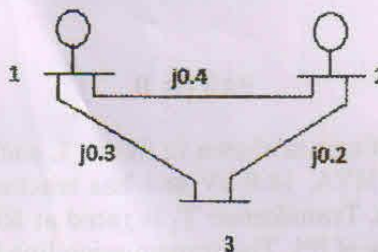

Figure 3
12. a) For the system shown in fig.3, determine the voltages at the end of the first iteration by Gauss-Seidal method. Assume base MVA as 100. (13)